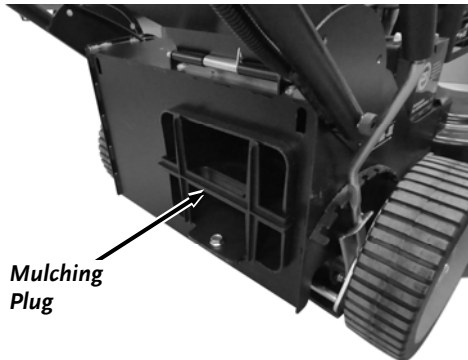

Figure 15
1. Remove the Mulching Plug (*Figure 15*).
2. Install the Mulching Plug (*Figure 15*).
1. Install the Mulching Plug (*Figure 15*).